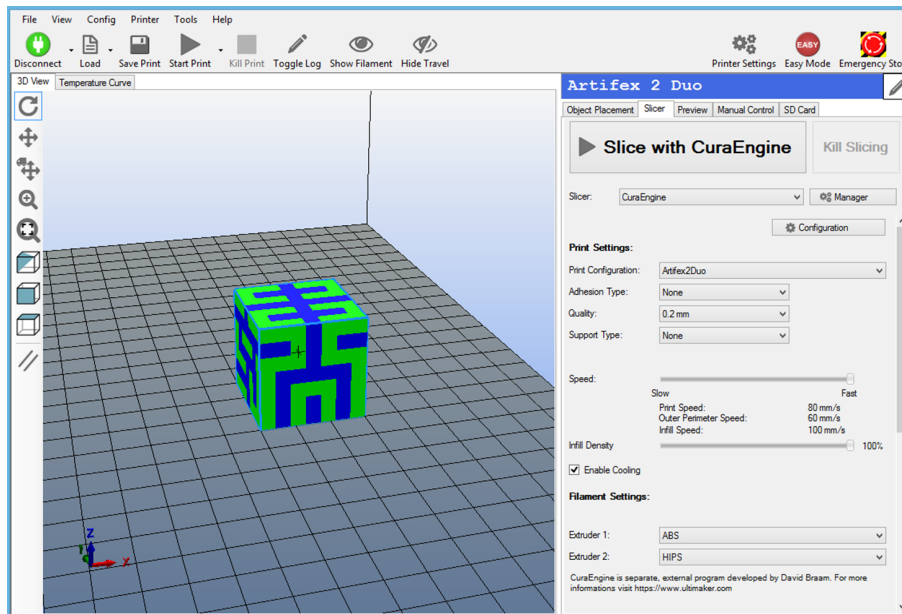

Figure 6.20: Defining print and filament settings for Hilbert Cube
- Then, slice the model using the slicer of your selection. In Figure 6.20, the CuraEngine was used to generate the G-code.